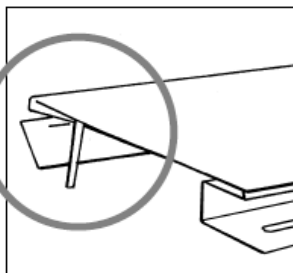

Figure 3
3. Cut a 3/4" notch inside the pocket, as you would with j channel, to form a rain tab and bend it down. Repeat this process on the other end. Cut the foam back to the insides of the angles. (figure 3.)